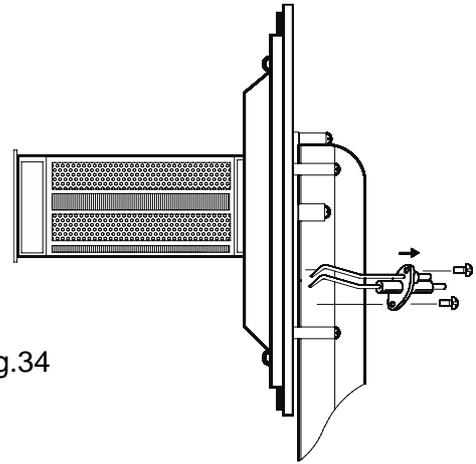

Fig.34
**8.3 TO REMOVE/ REPLACE THE ELECTRODES (Fig.34)**